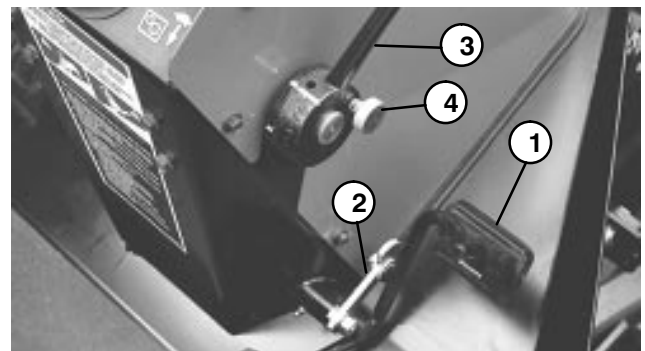

Figure 16
Traction Pedal (Fig. 16) – Controls forward and reverse operation. Depress top of pedal to move forward and bottom to move backward. Ground speed depends on how far pedal is depressed. For no load, maximum ground speed, fully depress pedal while throttle is in FAST. For maximum power under load or when going uphill, keep engine rpm high by having throttle in FAST and traction pedal partially engaged. If engine rpm begins to decrease due to load, gradually reduce traction pedal pressure until engine speed is increased.
Speed Selector (Fig.16) - Cam lever at side of traction pedal can be rotated to maintain desired speed. Rotating lever forward decreases speed and backward increases speed.
Axle Shift Lever (Fig.16) – Located on right side of console, lever selects front drive mode. Pull out lockout knob, move lever rearward for mowing operation and forward for transport operation, then release knob to lock selection. Lever must be in LO position to mow. Middle position (N) is for towing.